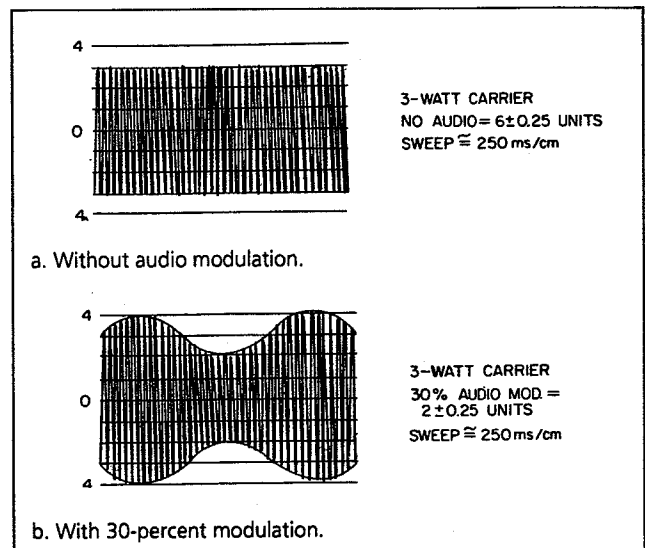

Figure 11-2. Input signal from transmitter module, RFL 67 PLC VOICE Voice Adapter Module
**Input Signal:** See Figure 11-2.